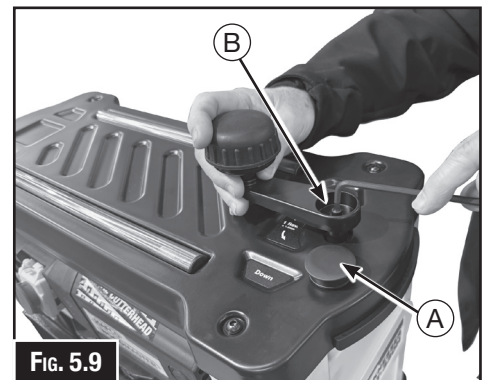

FIG. 5.9
2. Remove the height adjustment handle by removing the rubber cap (A) & screw (B). (Fig. 5.9)